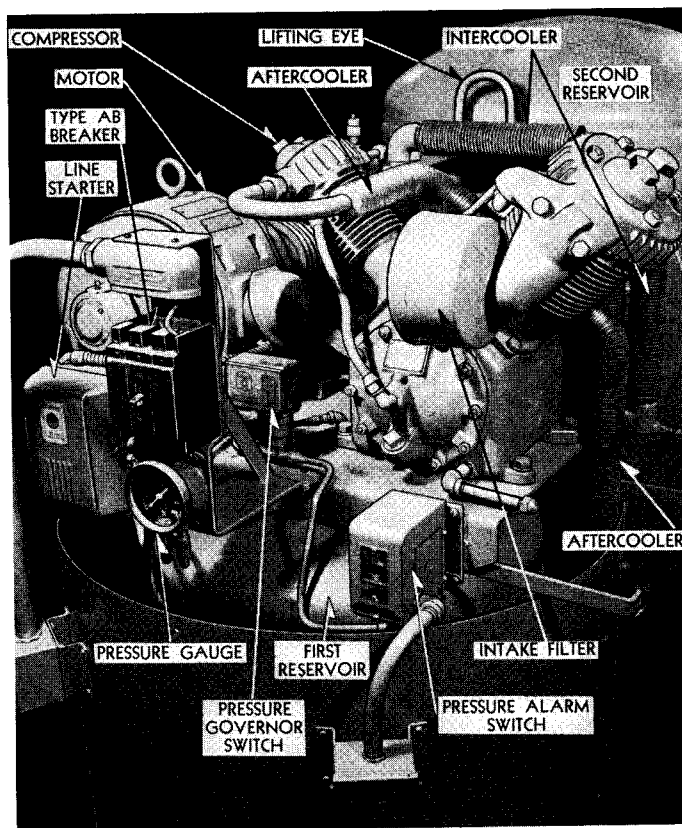

FIG. 17—CONTROL EQUIPMENT FOR SINGLE COMPRESSOR
**Pressure Governor**—The cut-in and cut-out points of compressor operation are controlled by a pressure switch actuated by storage reservoir pressure (see Fig. 17). As shown in Fig. 18, this switch is arranged with such bellows and spring combinations as to make or